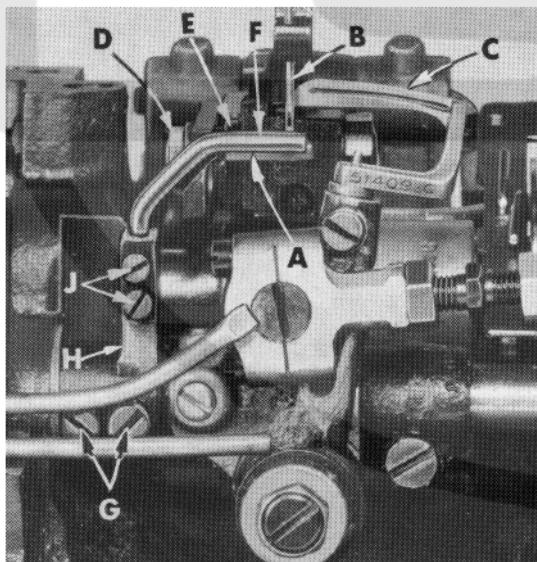

Fig. 11
Set the rear needle guard (A, Fig. 11) horizontally so that it barely contact the rear of the needle (B) when at its most forward point of travel. It should be set as low as possible, yet have its guarding surface in contact with the needle, until the point of the looper (C), moving to the left, is even with the needle. To move needle guard forward or backward, merely loosen screw (D), move needle guard as required and retighten screw (D). To raise or lower the needle guard, loosen screw (D); and turn screw (E) clockwise to lower or counterclockwise to raise. Retighten screw (D) after guard is properly set.
Set the front needle guard (F, Fig. 11) so that it barely contacts the needle (B) until the point of the looper (C), moving to the left, is just past the left side of the needle. The looper may brush, but not pick at the needle. The front needle guard should beset as low as possible to meet this condition yet not contact the rear needle guard or looper at any time. To move needle guard forward or rearward, loosen screws (G), rotate needle guard holder (H) as required and retighten screws (G). To raise, lower or rotate needle guard, loosen screws (J), reposition as necessary and retighten screws after guard is properly set.